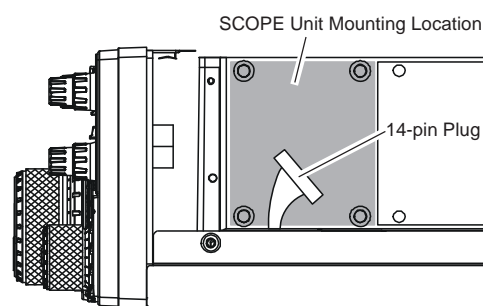

FIGURE 2
3. Refer to Figure 2 for the mounting location for the SCOPE Unit. Locate the 14-pin plug taped on the chassis. Remove the tape and remove the 14-pin plug from the chassis.